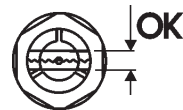

Figure 5:
- Fill with oil slowly, using the syringe. It will take 5 to 10 minutes until the oil reaches the same level in both oil chambers. The oil volume is correct when the oil level is located in the centre of the gauge glass (Figure 5). The required quantity of oil depends on the installation position; for guidance, see Tables 3 and 4.